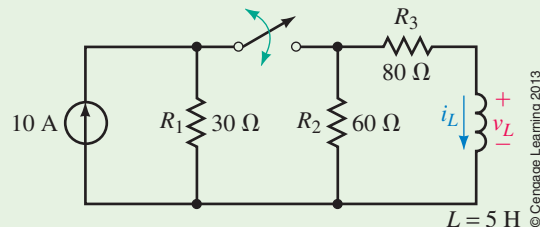

FIGURE 14–24
- a. $160(1 - e^{-2000t})$ mA; b. $80e^{-2000t}$ V. i_L climbs from 0 to 160 mA with the waveshape of Figure 14–1(b), reaching steady state in 2.5 ms. v_L looks like Figure 14–2(c). It starts at 80 V and decays to 0 V in 2.5 ms.
Refer to the circuit of Figure 14–24:
- Convert the circuit to the left of L to its Thévenin equivalent. As indicated in Figure 14–25(a), $R_{Th} = 60 \parallel 30 + 80 = 100$ Ω . From (b), $E_{Th} = V_2$, where
The Thévenin equivalent circuit is shown in Figure 14–26(a). $\tau = L/R_{Th} = 5 \text{ H}/100 \Omega = 50$ ms. Thus, during current buildup,